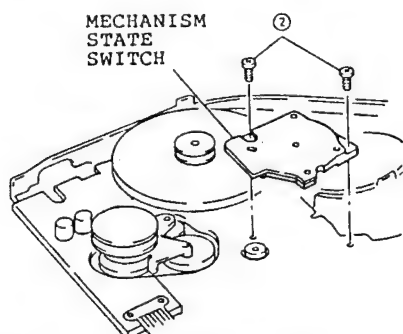

Fig. 2-63
2. Remove two (2) screws holding the mechanism state switch. (See Fig. 2-63)